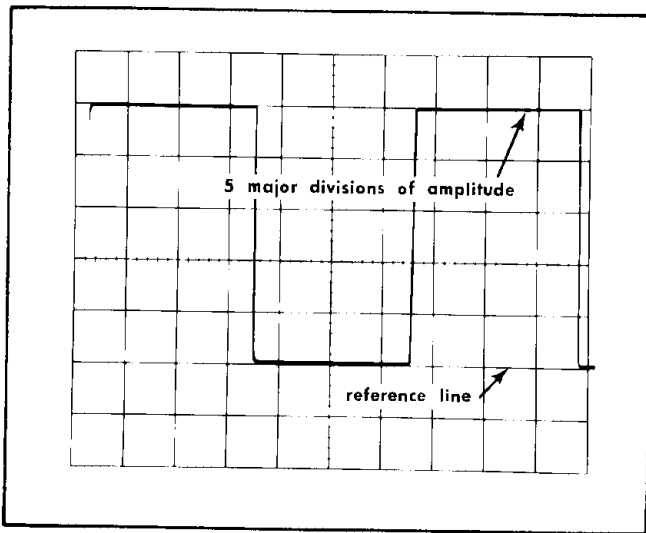

Fig. 2-2. Typical display with controls adjusted as directed in step 1.
c. Apply a 50 mV Calibrator signal from the Oscilloscope to the CH 1 + input connector. Switch CH 1 input selector to the DC position and adjust the POSITION control to center the display. The display should appear as a square wave approximately 5 divisions in amplitude as shown in Fig. 2-2.